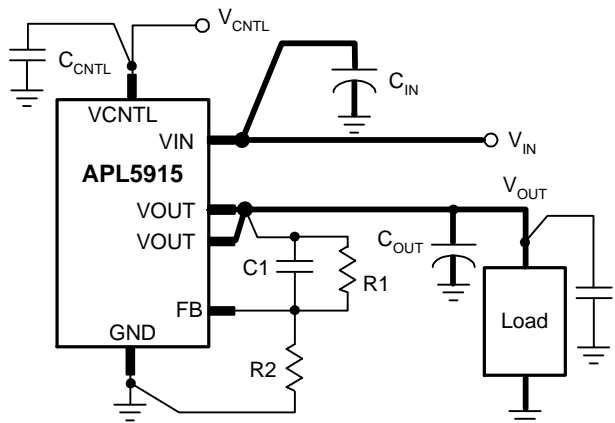

Figure 2.
8. See the Typical Application (See Next Page Figure 2)